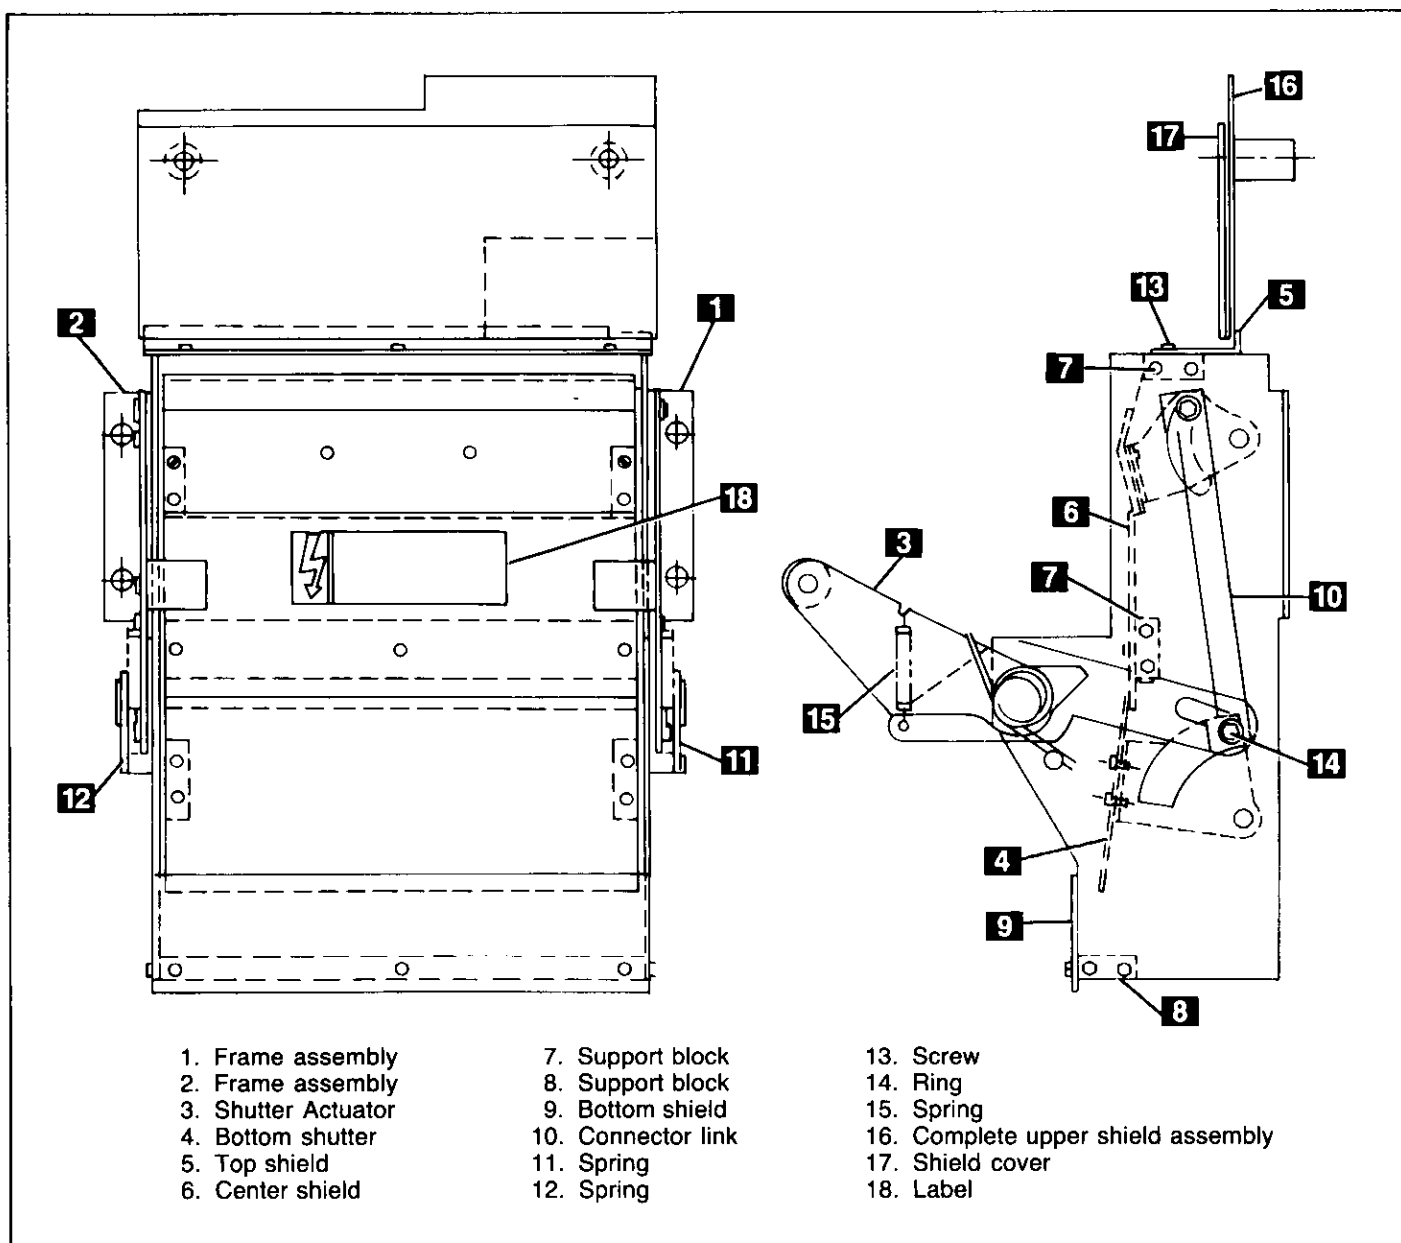

Fig. 7-8. AKD-8 circuit breaker shutter unit (AKR-30/50 breakers)
1. The shutter unit frame is mounted on the vertical stringers located at each side of the rear of the breaker compartment. See Fig. 7-8.